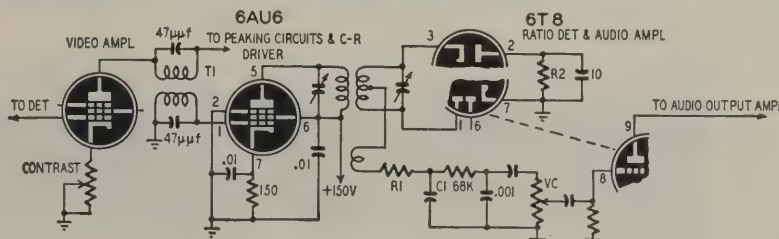
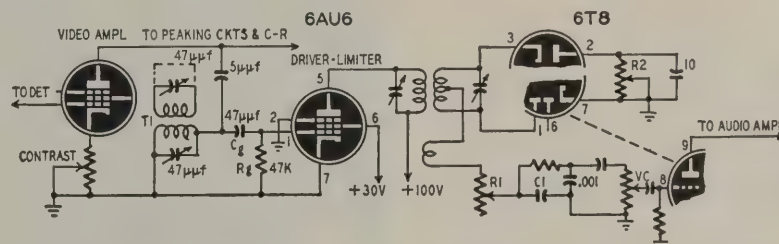

Fig. 5—Typical intercarrier sound circuit; the 6AU6 acts as straight amplifier.
Fig. 6—Modified circuit of Fig. 5 to improve rejection of unwanted AM signals.
Fig. 6 is a modified version of Fig. 5, to improve rejection of unwanted AM components. Changes are:
2. Replace coupling transformer (T1) with capacitive coupling from video amplifier plate to secondary winding as in Fig. 6. (Short-circuit primary). This
Fig. 5 shows a typical 4.5-mc intercarrier sound circuit including the sound takeoff point and audio amplifier. The function of the sound circuit is to amplify the frequency-modulated 4.5-mc signal, reject any amplitude variations, and detect or convert the FM to audio. The most difficult problem is to effectively iron out AM so that no voice or sync buzz is present in the audio out-
3. Adjustment of the ratio detector can be done if an FM-AM signal generator and oscilloscope are available. Follow manufacturer's alignment instructions. Variation in values of R_1 , R_2 and C_1 in Fig. 5 will affect the ratio detector's ability to reject AM. For example, reducing the value of R_2 will often materially improve AM rejection of the detector but may result in decreased audio output. When R_1 or C_1 is varied a sharply defined minimum in output due to AM will be found. If a potentiometer whose total resistance is about 500 ohms is substituted for R_1 , this null point will be found and may result in an improvement in AM rejection.
In the absence of adequate equipment, it is not recommended that adjustments be made on the ratio detector. However, a considerable improvement in reduction of sync buzz can be expected by making the circuit changes shown in Fig. 6, and by correct receiver alignment.